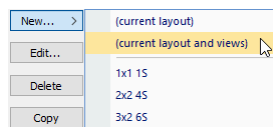

Figure 194 – List of layouts for new hanging protocol
2. Click the **New...** button in the displayed **Hanging protocol manager** dialog, and select the **(current layout and views)** item in the displayed menu (see Figure 194).